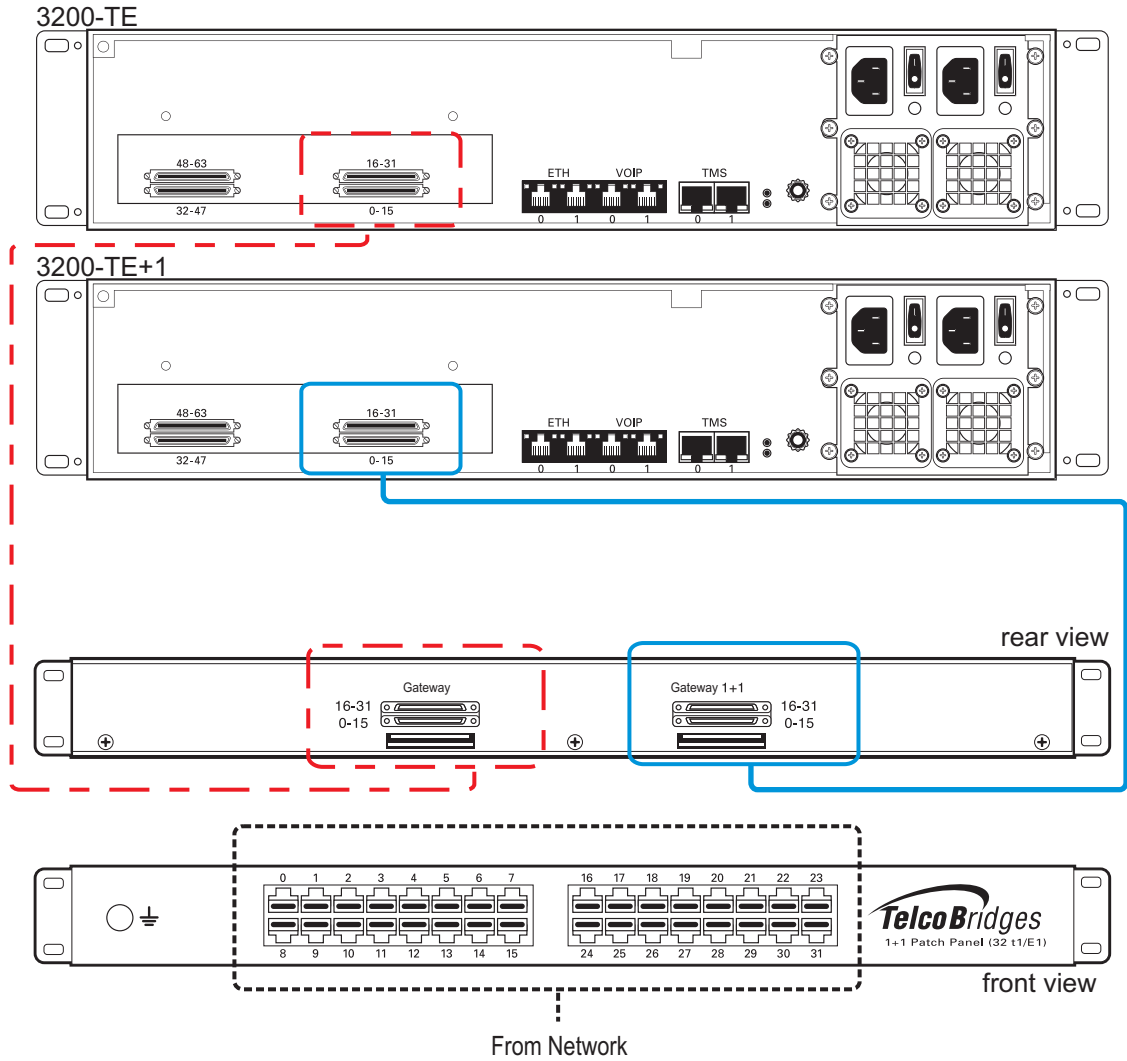

Figure 2.15 3200-TE and 3200-TE+1 connecting to the TDM 1+1 32/T1/E1 1+1 patch panel
1. Connect each T1/E1 line from the network section of the 1+1 patch panel to the remote equipment. See figure 2.15 on page 37.